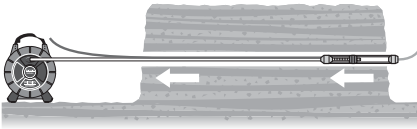

Figure 14 – Connect Utility Line To CROSSCHEK Inspection System
- When the Inspection equipment comes out through the bore, remove the air hose. If needed, attach the utility (pipe, cable, etc.) to the CROSSCHEK Inspection System with appropriate adapters (*Figure 14*). Do not twist CROSSCHEK/Pushrod while attaching utility.